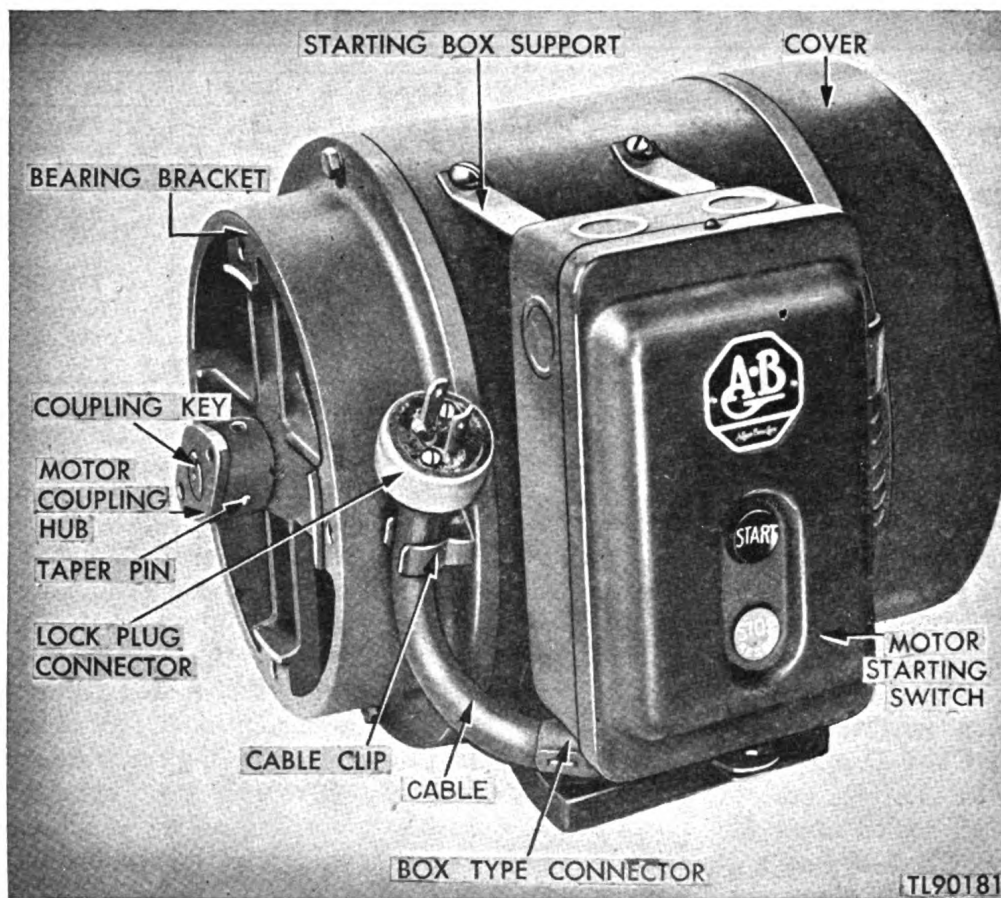

Figure 7. Motor MO-37-A and starter-switch box.
a. Motor MO-37-A (figs. 7 and 8) is the driving unit of Motor Generator MG-37-A. It is a 220-volt, a-c, single-phase, 50-cycle, repulsion-induction unit. The motor is dripproof and has high torque and quick-starting characteristics. Mounting flanges on the motor bearing bracket are bolted to the union ring on the generator-bearing bracket with a rabbet fit. Two U bolts hold the motor rigidly to the skid base. The motor shaft is connected directly to and drives the generator shaft through a flexible coupling. A manually operated, push-button type, motor-starting switch (fig. 7) is mounted on the motor frame. A thermal overload relay is provided for motor protection.